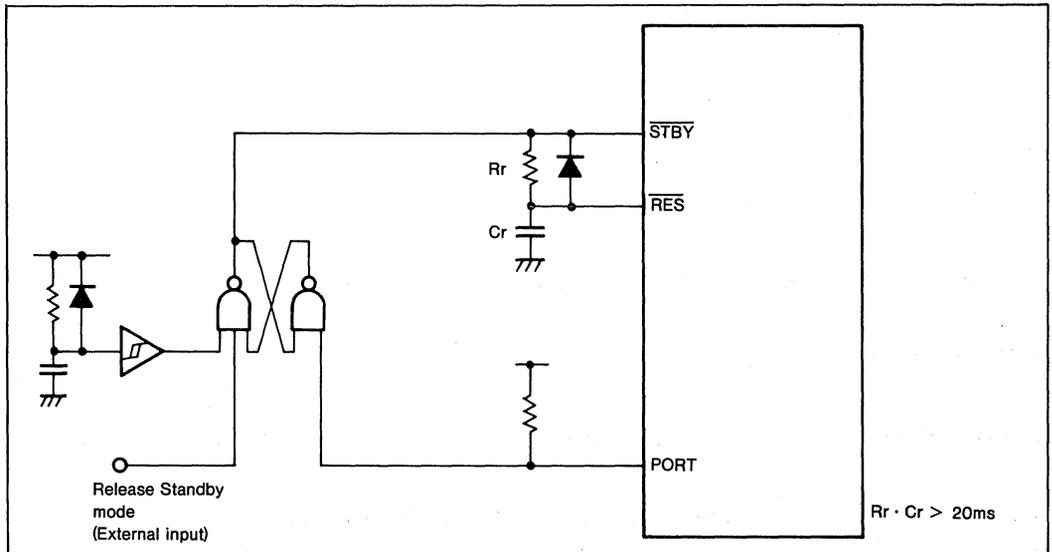

Figure III-13. Reset Input Circuit
**Question:** Does  $C_r$  in the reset circuit shown in figure III-13 ( $R_r \times C_r > 20$  ms), have an upper limit?